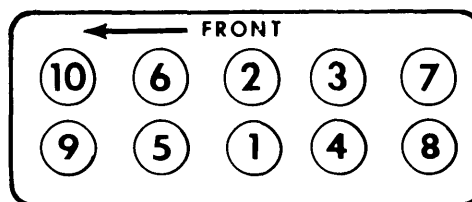

Fig. 1 Tightening Sequence for Cylinder Head
3) Install cylinder head bolts and tighten, in steps, according to sequence shown in Fig. 1. Install cylinder head-to-front cover bolt. Install and tighten camshaft lock nut, then bend tab of lock washer. Install distributor drive gear, tighten nut and bend lock washer.